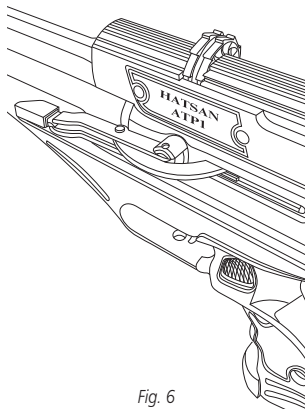
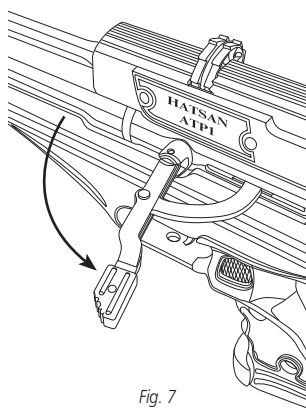
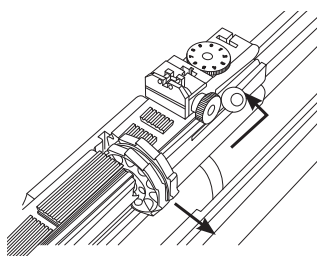

Fig. 6
Fig. 7
Fig. 8
2. To remove the magazine, pull the cocking lever until it locks and push forward the magazine release bolt and lock it upwards. Then remove the magazine by pulling it to the right. (Fig. 6, Fig 7, Fig. 8 )